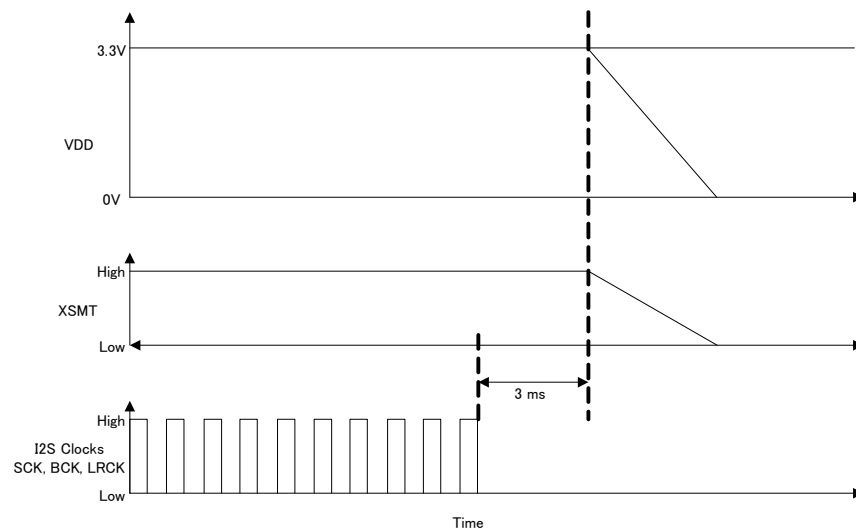

Figure 81. Stop I²C Clocks
2. Stop I²S clocks (SCK, BCK, LRCK) 3 ms before powerdown as shown in Figure 81.